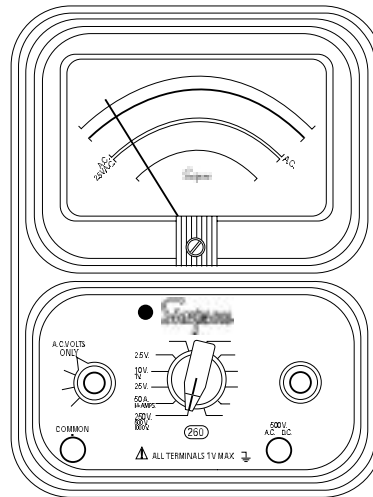

Figure 4-7. Jacks and Switch Positions for Measuring AC Voltage, 0-500V Range
- a. Set the function switch at AC Volts Only position. (Figure 4-7).